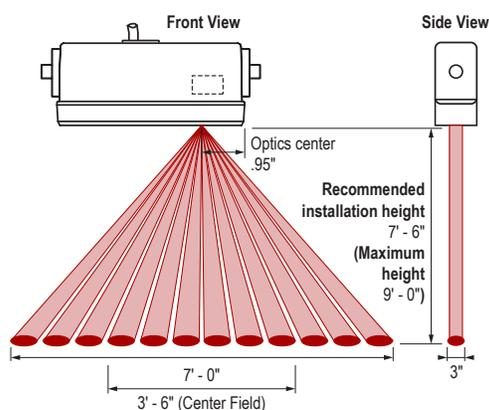

Figure 2-4. Sensor Mounting Specifications
- For best vehicle detection, mount sensor pairs 7'6" above the finished floor (AFF) (9'0" maximum) and 48" apart (60" maximum). (refer to Figures 2-4 and 4-1)